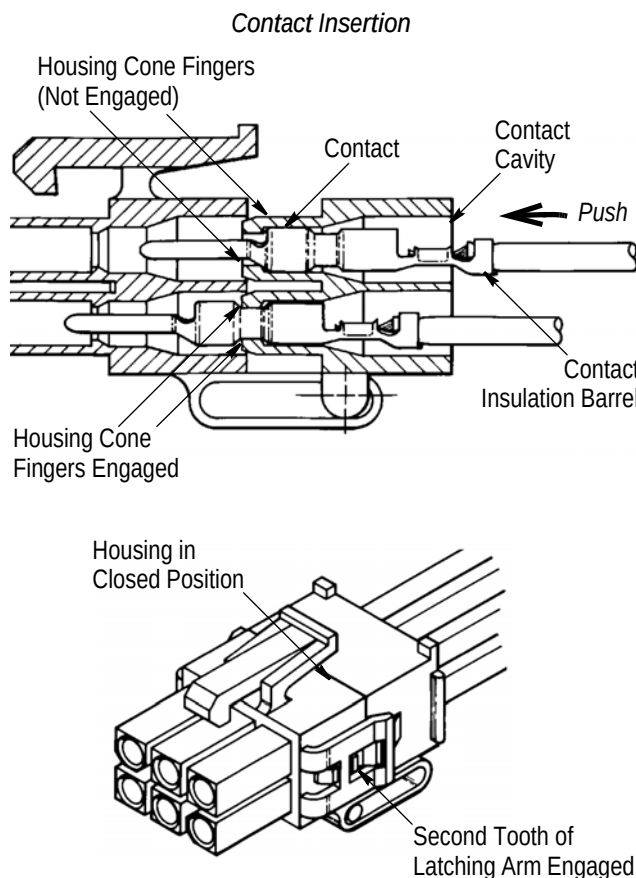

Figure 3
3. From the wire end of the housing, align each terminated pin or socket with the appropriate contact cavity. Then grasp the wire directly behind the contact insulation barrel and push the contact with a twisting motion into the contact cavity until the contact stops and the housing cone fingers engage. See Figure 3, Detail A.
4. After all required contacts and keying plugs have been inserted into the housing, move the housing to the close position. Grasp the wire end of the housing and push it until the second tooth of each latching arm engages as shown in Figure 3, Detail B.
3. After all keying plugs have been inserted into the housing, move the housing to the closed position. Grasp the wire end of the housing and push it until the second tooth of each latching arm engages (refer to Figure 3).